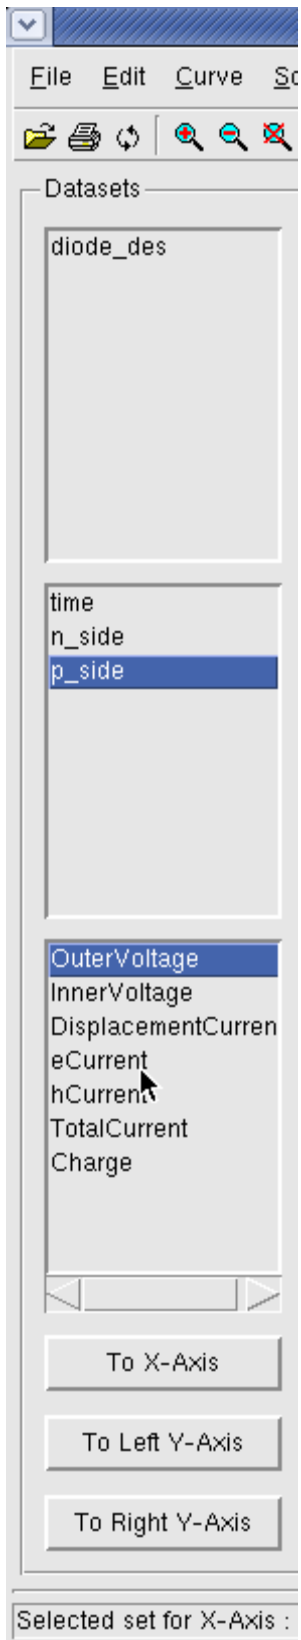

Figure 110: Assigning X-axis.
3. Click on p_side, OuterVoltageo x axis (Figure 110).